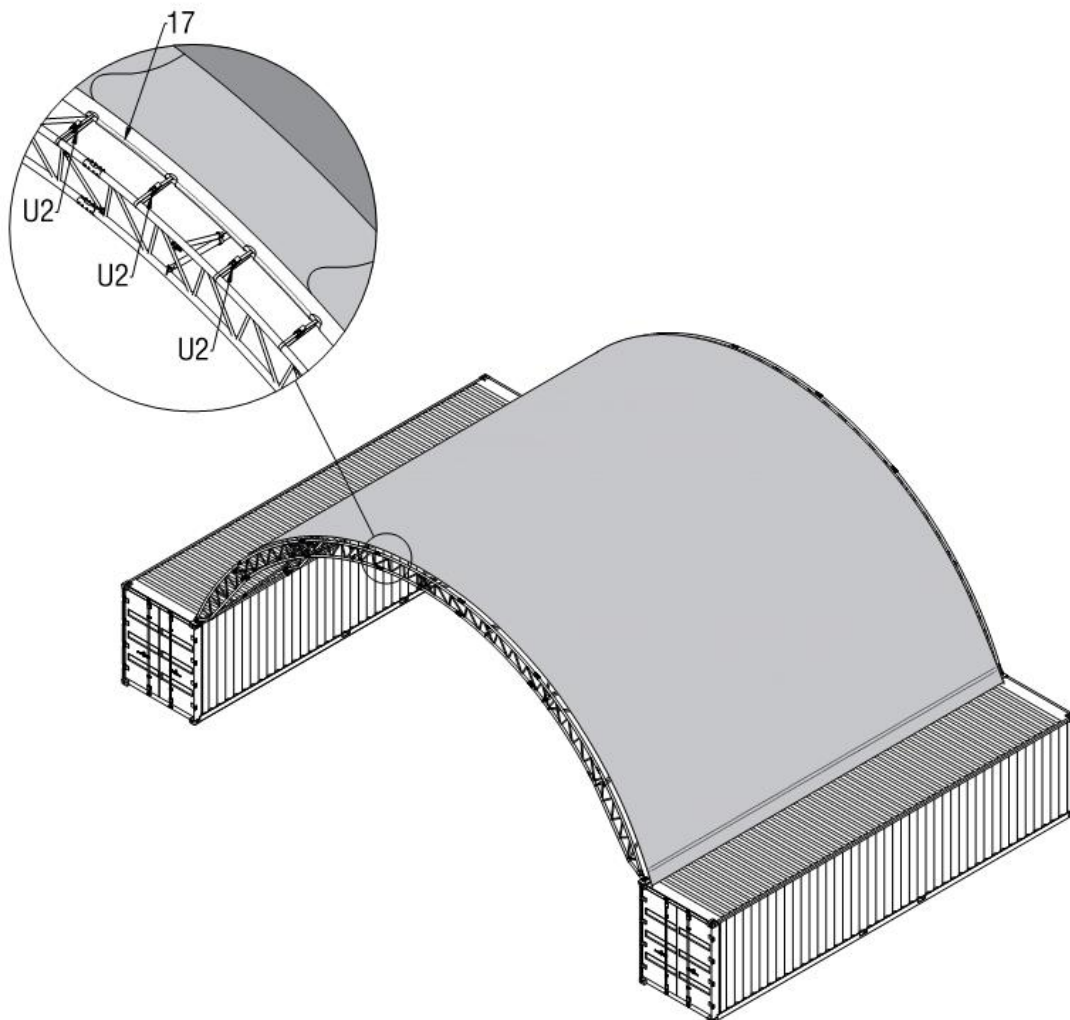

Figure 14
4. Insert the PPR Tube (Part no.17) into the end of roof cover by using small ratchet with straps (Part no.U2) to the arch as Figure 14 shows. Then cut the lower tension cover pocket according to the base plate location (**Please note the Cutting direction, the cutting should be Perpendicular to the cover pocket as the Figure 14 shows**). Insert the nylon straps (Part no.U9) into the winch, drive the ratchet straps lashing winch forth and back and then roof cover is tightened. The roof cover tightening should be properly tightened and not too tight.